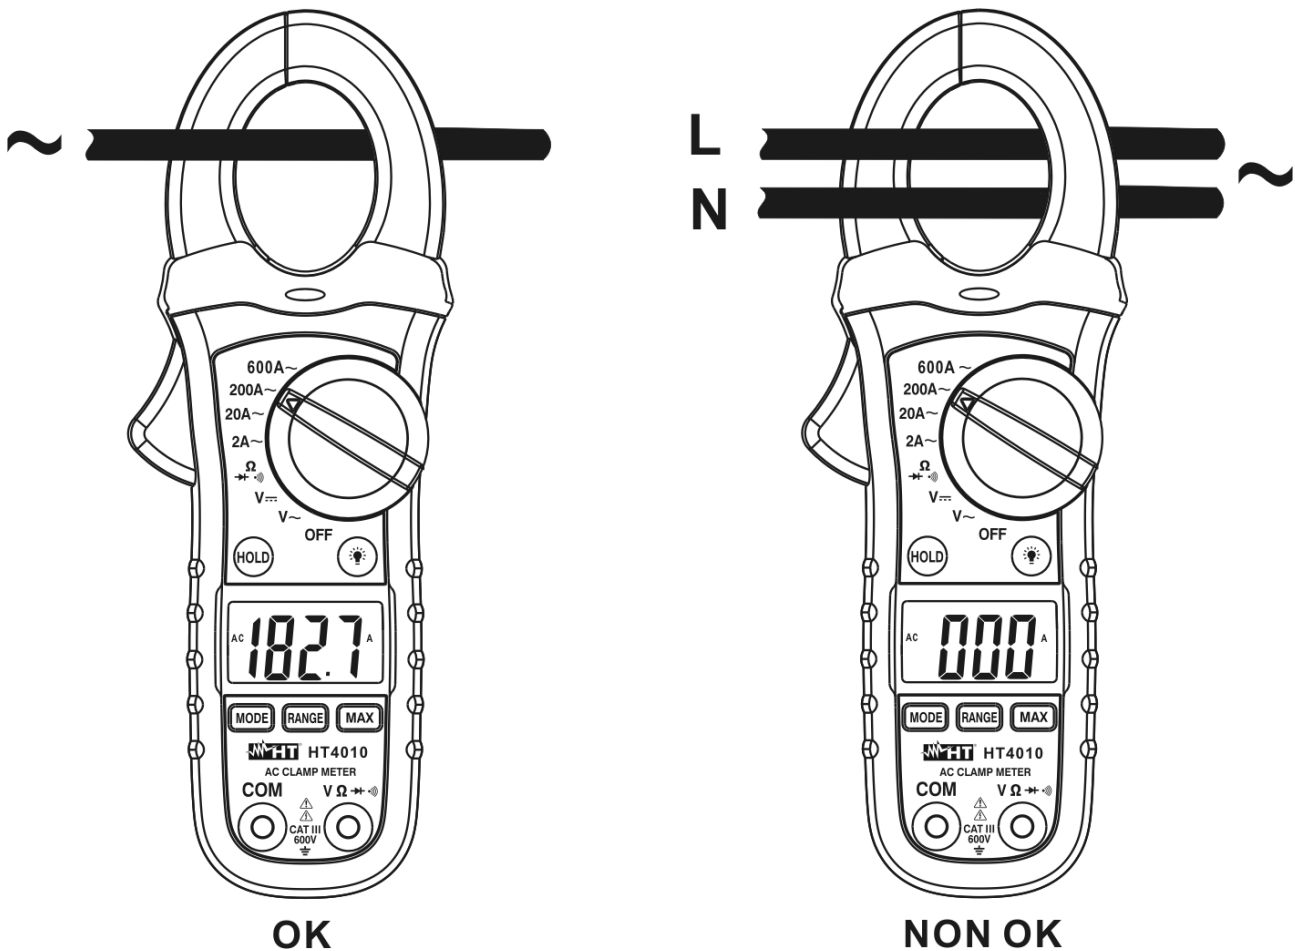

Fig. 4: Taking AC current measurement
2. Fig. 4), then the current value is shown at display